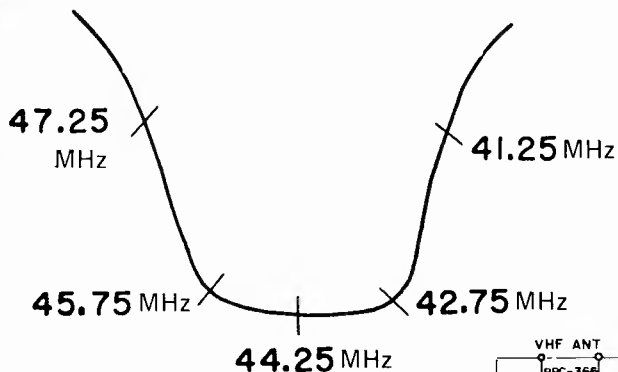

Figure 2
8. Set the marker generator to produce the desired marker frequencies and adjust TL-99 (Top and Bottom) to obtain a waveform on the oscilloscope similar to the pattern shown in Figure 2.